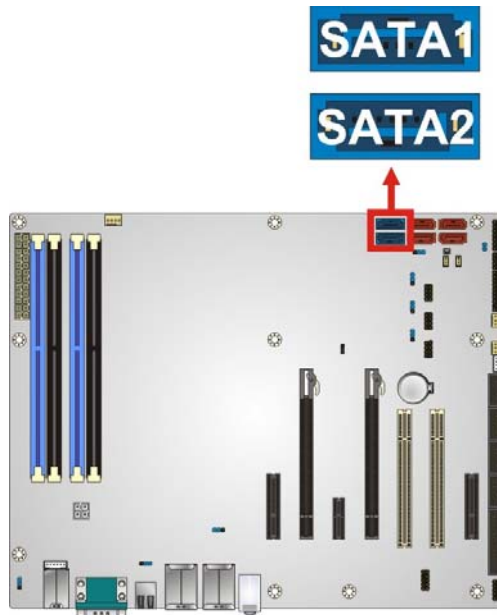

Figure 3-22: SATA 6Gb/s Drive Connector Locations
- CN Location:** See Figure 3-22